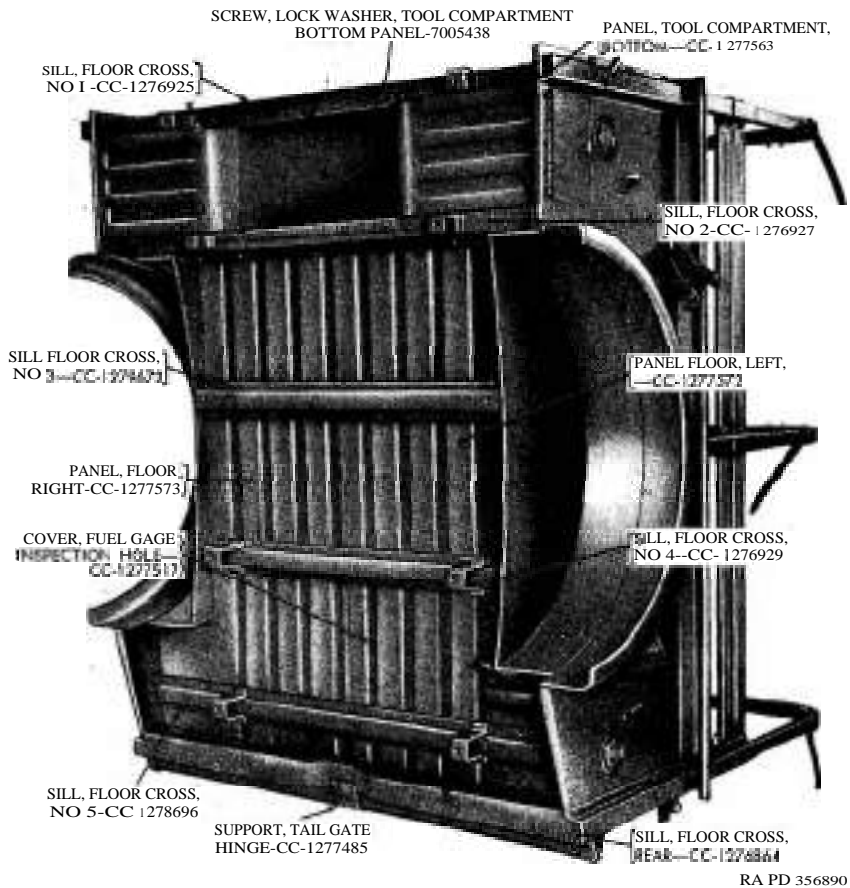

Figure 217. Cargo underbody and related parts.
- (1) Remove two lock washer screws. This will release tail gate hinge support from rear floor cross sill (fig. 217).
- (2) Remove four lock washer screws. This will release the
- (1) Remove eight machine screws, nuts, and lock washers ; then remove fuel filler housing from inside of left side panel. Remove two cap screws, nuts, and lock washers ; then remove fuel filler tube assembly from wheel housing.
- (2) Remove nuts, lock washers, and screws, which attach the inside flange of the left side panel, wheel housing, and tool compartment door lock catch to floor left panel. Remove cap screws, lock washers, and nuts, which attach side panel tool compartment door (M) to left side panel (N) . Remove door.
- (3) Remove jam nuts. Remove side panel tool compartment door lock handle (L) from tool compartment door.
- (4) Remove nuts, lock washers, and cap screws. This will release tool compartment door lock from door. Remove lock.
- (5) Remove two lock washer screws from rear floor cross sill. This will release side panel corner bracket from sill. Remove left side panel (N). Remove lock washer screw at rear of side panel. Remove side panel corner bracket from side panel.
- (6) The right side panel (S) is removed in the same manner as left side panel ((1) through (5) above), except for the removal of the fuel filler housing and fuel filler tube assembly.
- j. *Remove Rear Fenders.* Remove fender lock washer screws ; then remove rear fenders (J) and rear fender welts (K) from side panels.
- k. *Remove Tool Compartment Bottom Panel.* Remove tool compartment bottom panel lock washer screws; then remove tool compartment bottom panel (fig. 217) from floor cross sills.
- (1) Remove screws and fuel gage inspection hole cover (fig. 217) from left floor panel.
- (2) Remove nuts, lock washers, screws, and right and left floor panels from floor cross sills.
c. Inspect Right and Left Side Panels and Front Panel. Inspect left side panel (N), right side panel (S), and front panel (P) for collision damage or corrosion. Collision damage can be corrected by sheet metal repairs, but the panels must be replaced if corrosion is extensive.
- (1) Inspect right and left floor panels for corrosion or distortion. If corrosion has damaged the floor panels to the extent that sheet metal repairs cannot be performed, replace panels. Replace floor panels if they are distorted.
- (2) Inspect fuel gage inspection hole cover (*fig. 217*) for distortion or corrosion. Replace cover if either of these conditions exist.
e. Inspect Tail Gate Assembly. Inspect tail gate assembly (D) for collision damage, distortion, or corrosion. If any of these conditions exist, replace tail gate assembly. Inspect tail gate outer hinges (G) and supports for wear, corrosion, or distortion. If any of these conditions exist, replace hinges or tail gate assembly.
f. Inspect Rear Fenders and Rear Fender Welts. Refer to paragraph 310 for information pertaining to the inspection of the rear fenders (J) and rear fender welts (K).
- (3) Inspect side panel tool compartment door lock handle (L) for cracks or other visual damage. Replace handle if it is not in satisfactory condition.
h. Inspect Tool Compartment Bottom Panel. Inspect tool compartment bottom panel (fig. 217) for corrosion, loose welds, or distortion. If any of these conditions exist, replace panel.
i. Inspect Floor Cross Sills. Inspect floor cross sills (fig. 217) for corrosion, distortion, cracks, broken welds, or bent brackets. Repair or replace cross sills as required.
a. Install Right and Left Floor Panels on Floor Cross Sills (fig. 217).
- (1) Position No. 1 floor cross sill with the holes for the tool compartment bottom panel toward rear.
(fig. 217). Apply a liberal coating of sealing compound (51-C-1616) to upper surface of the front and rear flanges on tool compartment bottom panel. Position tool compartment bottom panel on No. 1 and No. 2 floor cross sills. Install 24 tool compartment bottom panel lock washer screws. Tighten screws.
- (1) Position one of the tail gate outer hinges (G) on body-side panel and attach hinge to body with 7/16-inch internal-external-teeth lock washers and ~~7/16-20NF~~ x 1 cap screws. Tighten cap screws. Tighten three side panel rear support cap screws.
- (2) Coat hinge ends of tail gate assembly with general purpose grease (GAA) and insert tail gate assembly in tail gate outer hinge, which is attached to body. Position other tail gate outer hinge on tail gate assembly and install two 7/16-inch internal-external-teeth lock washers and ~~7/16-20NF~~ x 1 cap screws. Tighten cap screws. Tighten three side panel rear support cap screws.
- (3) Close tail gate assembly and position tail gate hinge support (fig. 217) at center of rear floor cross sill and install two $\frac{1}{8}$ -inch internal-external-teeth lock washers and ~~$\frac{3}{8}$ -24NF~~ x $\frac{3}{4}$ fluted taper point cap screws. Tighten cap screws.
l. Install Roof Bow Assemblies. Refer to TM 9-840 for information pertaining to the installation of the roof bow assemblies (A).